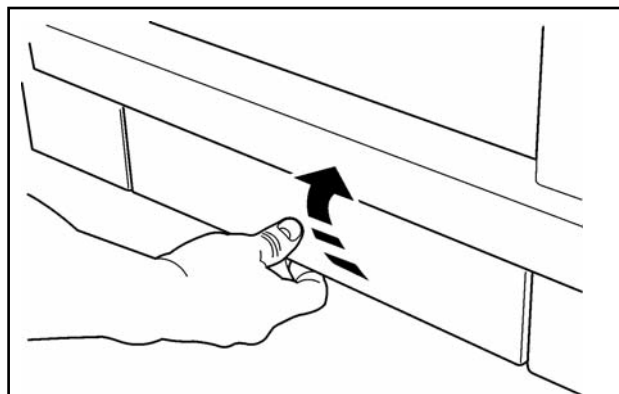
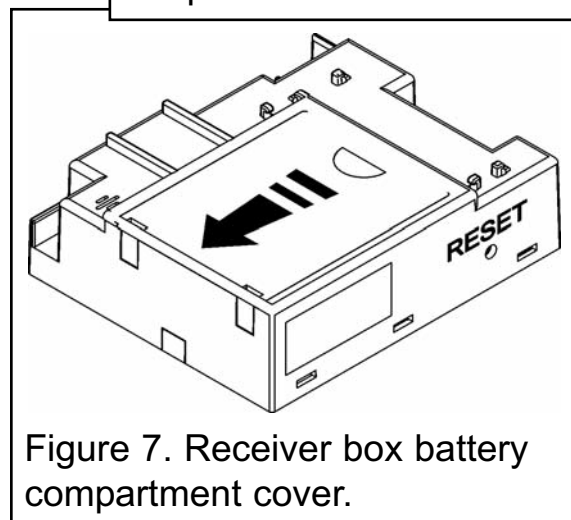

Figure 3. Bottom front access cover
Figure 7. Receiver box battery compartment cover.
1. To gain access to the gas valve gently pull and lift the bottom front cover (See figure 3).
To replace the batteries for both, lift the bottom access cover on the fascia (See figure 3) and gently pull the receiver box forward and clear of its support. Slide the battery compartment cover clear (See figure 7). Remove the existing batteries. Fit four 1.5 Volt 'AA' size batteries. It is important that the +ve and -ve symbols on the battery match those of the illustration inside the battery holder. Replace the cover, slide the receiver back into its support bracket and shut the access cover.